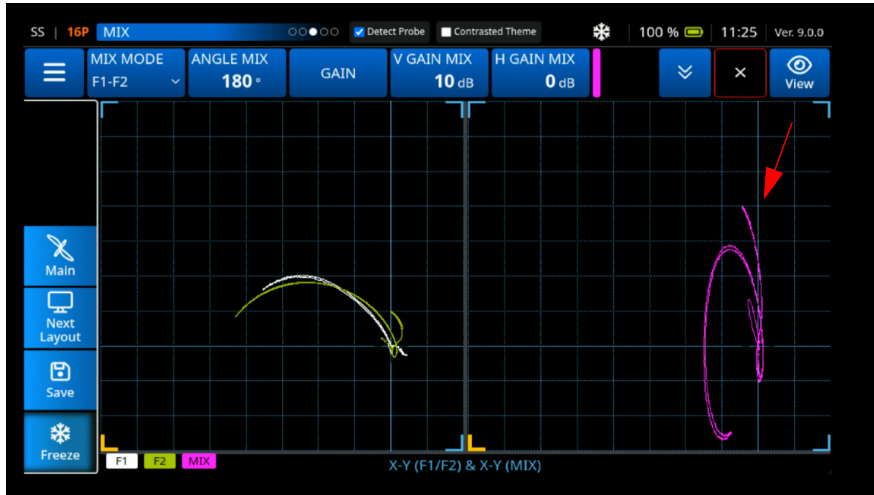

Figure 3-98 Adjust the V Gain Mix Settings
- Using the **V Gain Mix** setting and the knob, adjust the **Notch B** signal to reach **4 Vertical divisions** (See Figure 3-98 on page 115).